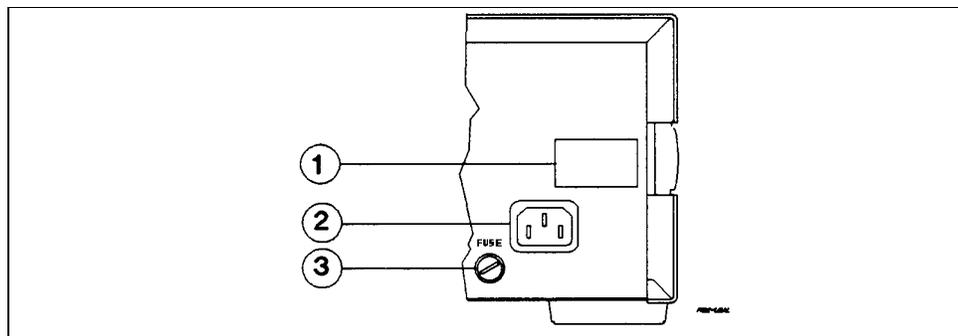

Figure 2-1. Series 664xA and 665xA Power Connection
The supplied cord connects to the power receptacle on the rear panel ( **2**, Figure 2-1).
- b. **Series 664xA/665xA** - Use a screwdriver to remove the line fuse from the fuseholder (3, Figure 2-1). Verify that the fuse is as specified on the label. Replace the fuse.